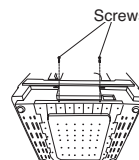

Figure 3
3. Fasten the 2 screws of the Bottom Cover to the Base. (Figure 3)